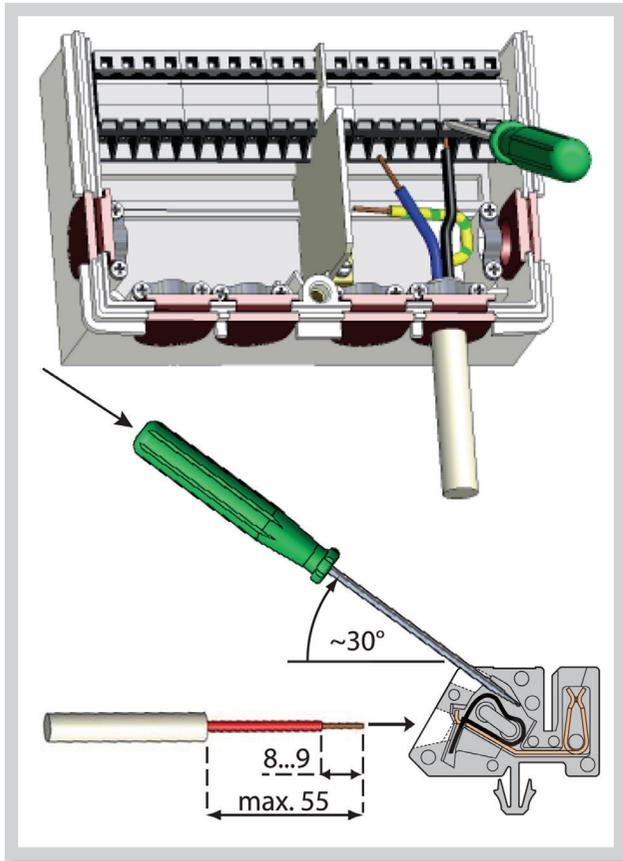

Fig. C 2.1
4. Press the terminals e.g. with a screwdriver (Fig. C.2.1.d) and wire the cables following the diagrams in Part B (Page 5).